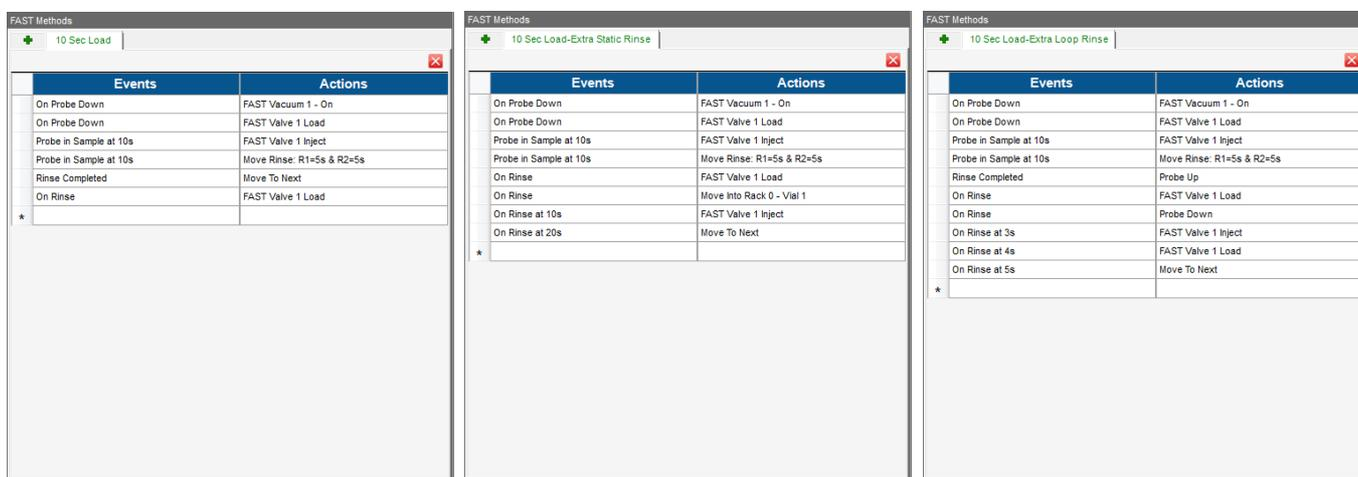

Figure 14-38. ESI FAST methods, loaded from templates delivered with Qtegra
- The method settings open in a new tab and show a list of the Events and Actions, see Figure 14-38.